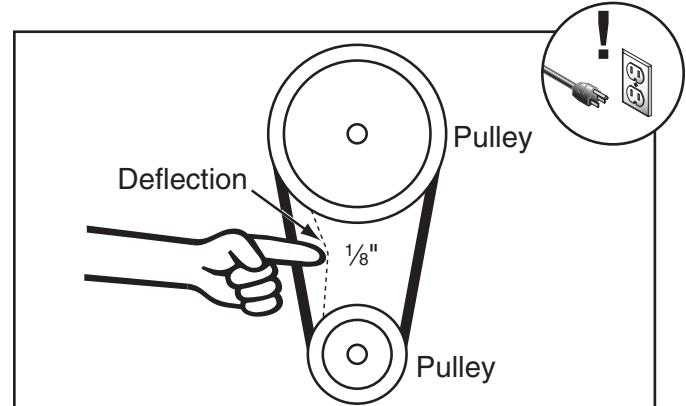

Figure 142. Correct V-belt deflection.
5. Tension V-belts until there is approximately $\frac{1}{8}$ " deflection when pushed with moderate pressure, as shown in **Figure 142**.